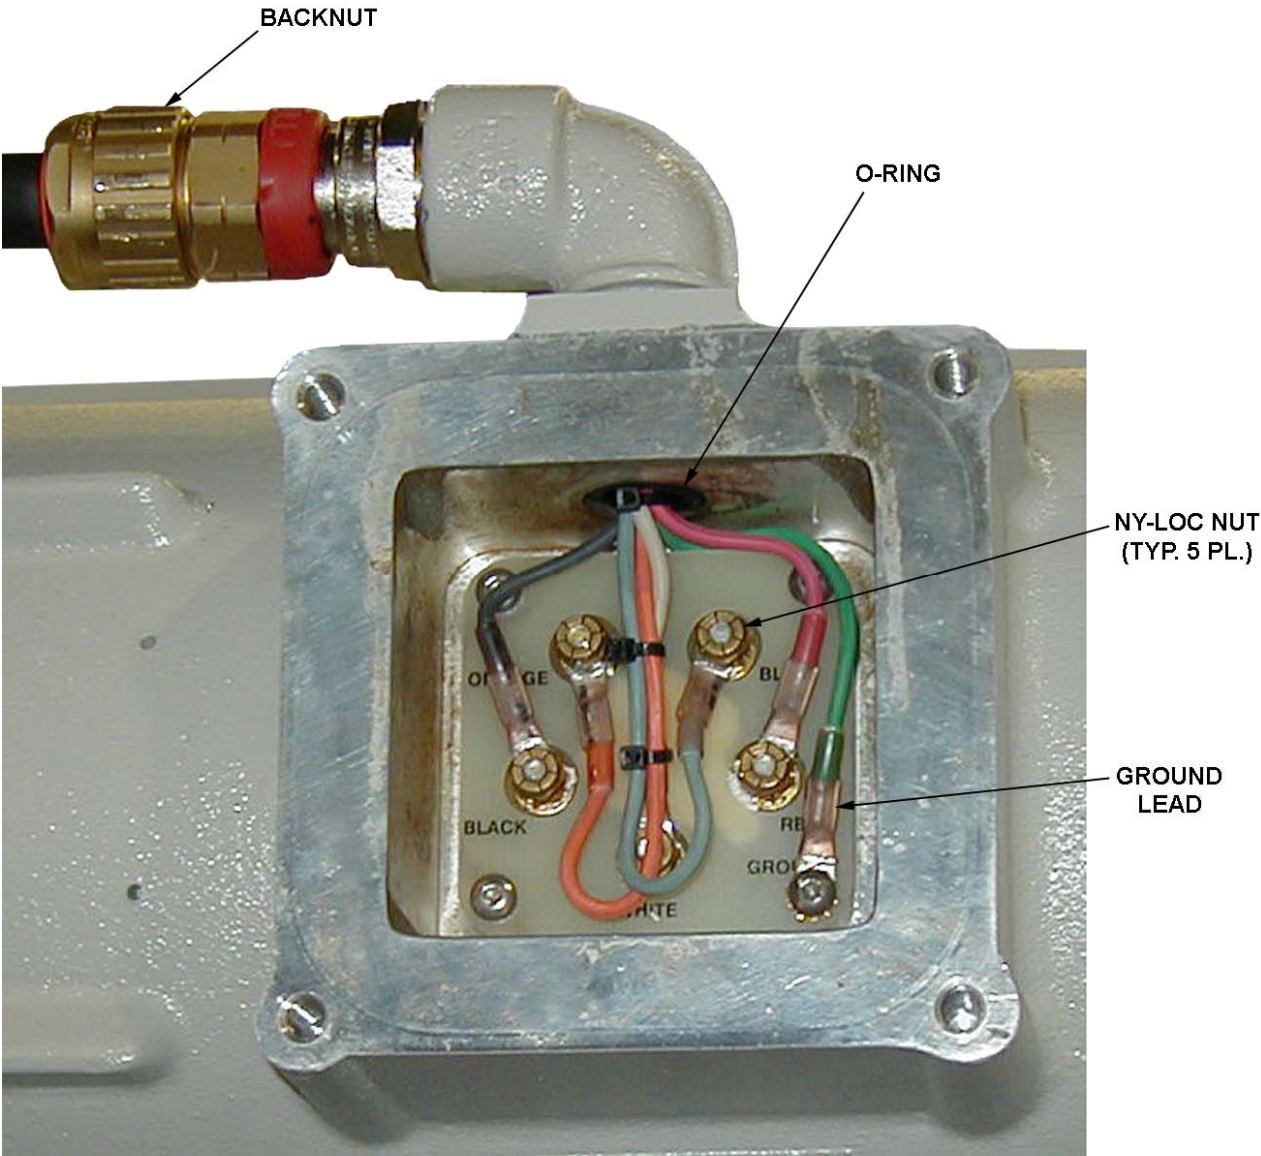

Figure 7-2 Motor Cord Connections to Terminal Block
2. Carefully feed the wires through the elbow installed in the motor junction box (Figure 7-2).